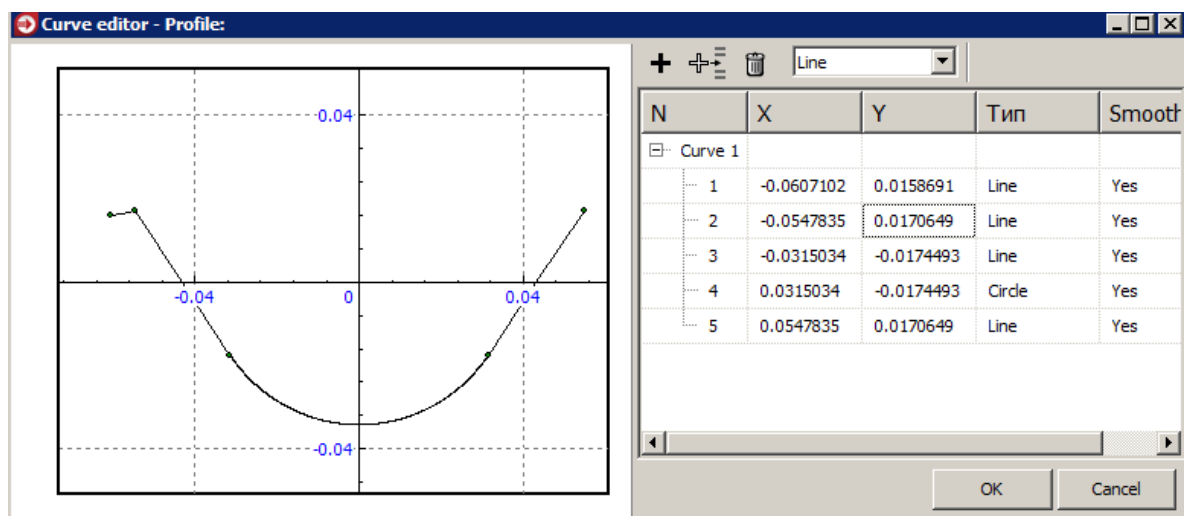

Figure 1.12. Tooth profile
- open the editor by the  button, Figure 1.12.